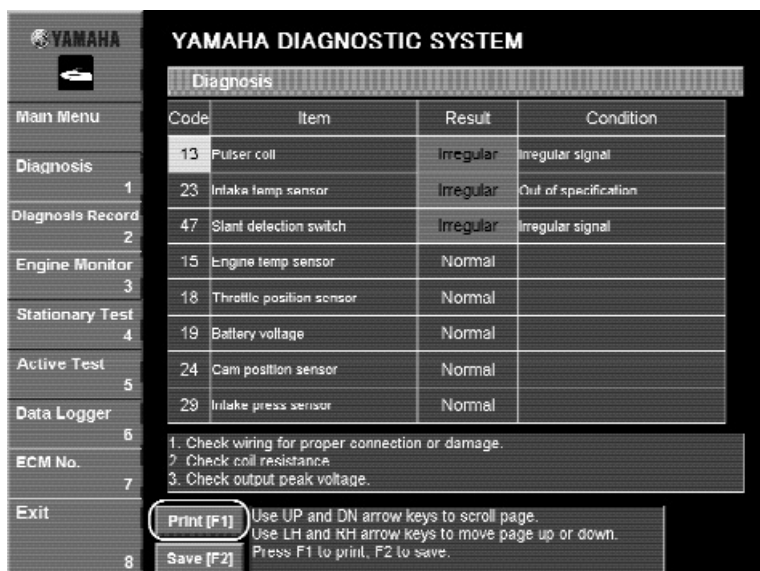

Fig. 26
1. Click the **Print [F1]** button or press the F1 key on your keyboard. The **Print** dialog box is displayed. (Fig. 26)